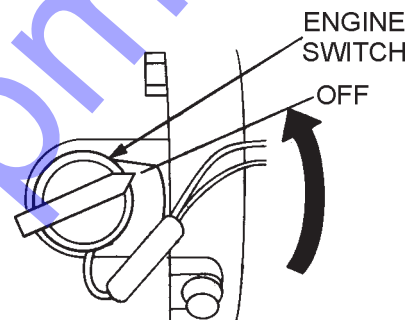

Figure 21. Engine ON/OFF Switch (OFF)
4. Turn the engine ON/OFF switch to the "OFF" position (Figure 21).